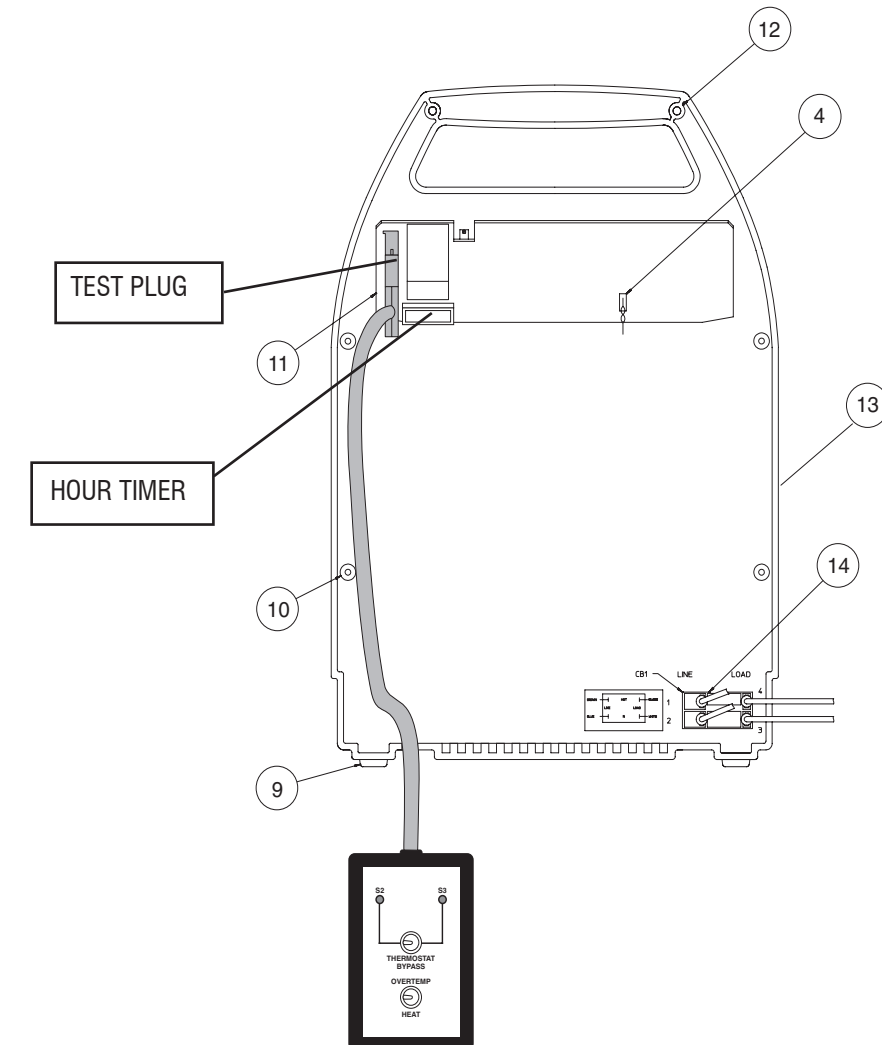

Figure 10 - TC3249 Detail Drawing
To replace the PC board assembly (item 11, fig. 10):